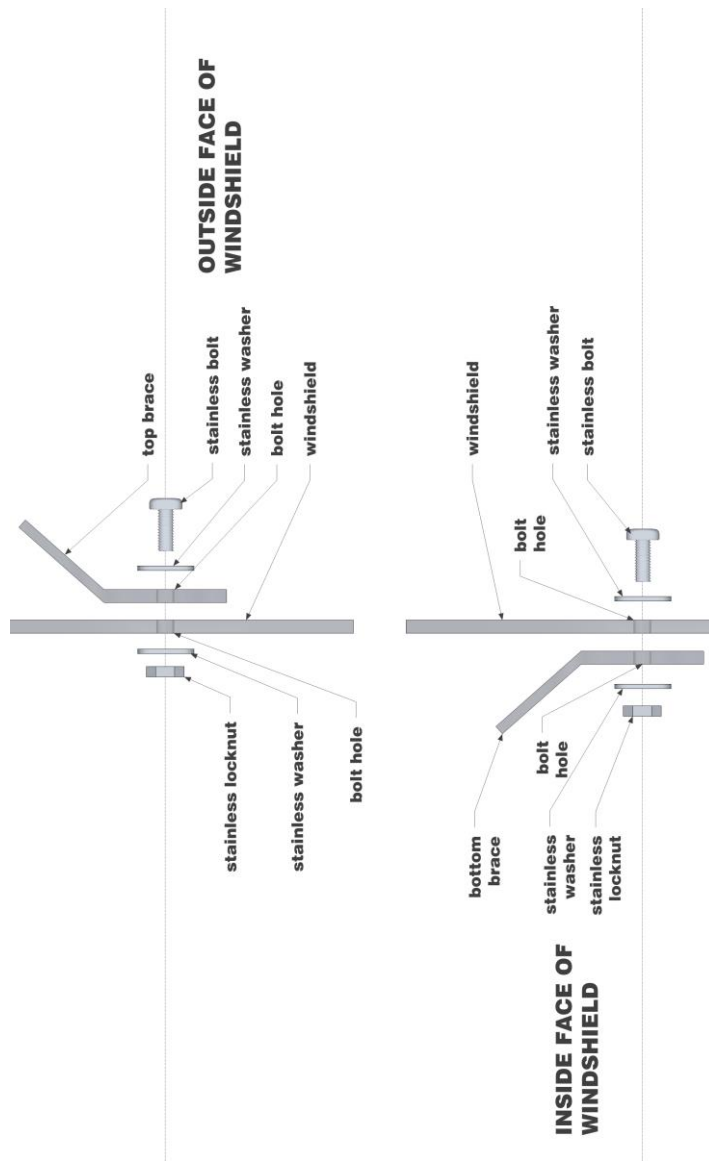

fig.1
3. Now take the rubber gasket provided and install it along the bottom of the windshield. Take care to seat the gasket fully to the bottom edge contour. Install the top and bottom braces using 1 stainless bolt, 1 stainless locknut, and 2 stainless washers per hole. On most models, the bottom brace is widest (installed *inside* the windshield), with the narrower brace used at the top (installed *outside* the windshield). Other models use the same brace top and bottom. The bolts should be installed through the front of the windshield with the bolt head facing forward, the locknuts on the back of the windshield facing rearward, with one washer under the bolt head and one washer behind the locknut at the rear. Install both braces using this sequence; even though the bottom brace is installed inside the windshield the bolt heads should still face forward, and hardware orientation remains the same as stated above (see fig.1).